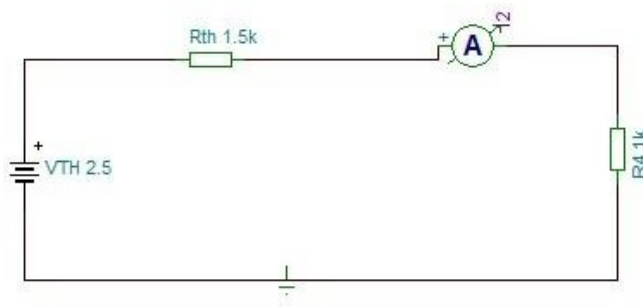

Fig 2: Thevenin's Equivalent Circuit with load
5. Rig up the circuit as shown in figure 2. Set power supply as V_{th} and adjust DRB as R_{th} .